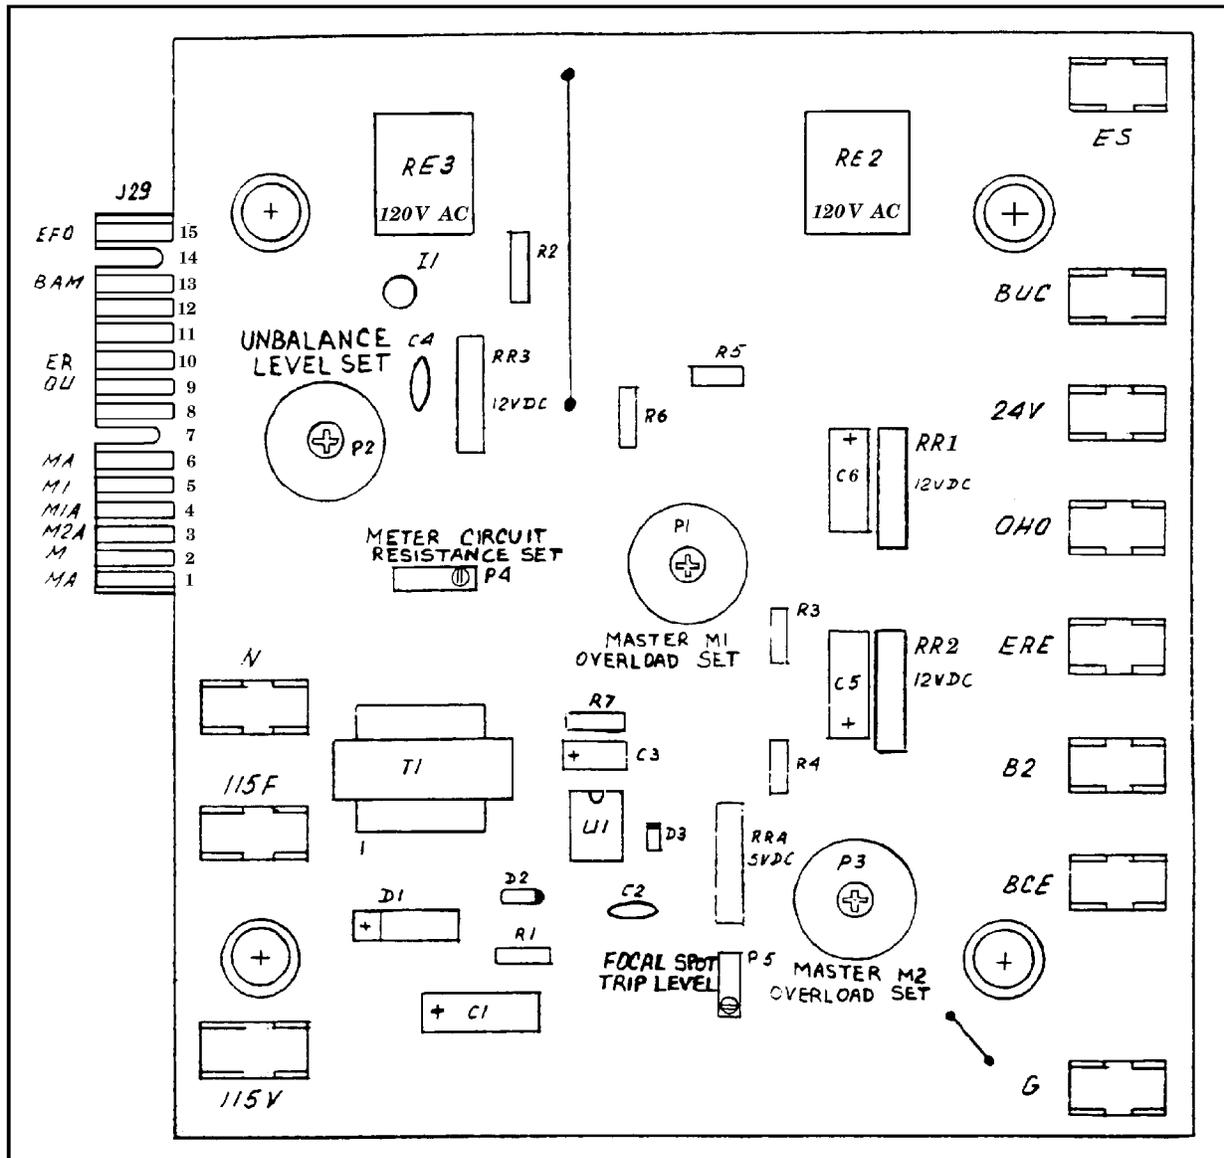

Figure 3-62
(1) Ensure the MAINS are off. Leave or install the current source on M1 and G on the main terminal strip. (See step 2g(8).)
(2) Connect a jumper wire on the Exposure Interlock PCB (6824.234.04), used from M1 (negative end of C6) and terminal G on the board. (See Figure 3-62.) This will bypass the focal spot overload.
(3) Turn the MAINS on and select 300L mA.
(4) Adjust the current source to 360 mA and adjust the pot P1, on the Exposure Interlock PCB (6284.234.04) until SAFETY RESET illuminates and will not illuminate for values less than 360 mA. (See Figure 3-62.)
(5) The M1 overall protection is set.
(6) Turn the MAINS off, remove the jumper wire, and reconnect it between M1 and M1A on the main terminal strip.
(7) Turn the MAINS on. Adjust pot P5 on the Exposure Interlock PCB (6284.234.04) until the SAFETY RESET illuminates for values above 360 mA and does not illuminate for values less than 360 mA. (See Figure 3-62.)
(8) Turn the MAINS off and remove the jumper wire.
(9) The focal spot overload is now set.
(10) Connect the negative lead of the current source to M2 and the positive lead to G on the main terminal strip located in the lower inside of the control.
(11) Turn the MAINS on and adjust the current source to 360 mA.
(12) Adjust pot P3 on the Exposure Interlock PCB (6284.234.04) until SAFETY RESET illuminates for values above 360 mA and does not illuminate for values less than 360 mA. (See Figure 3-62.)
(13) Turn the MAINS off and remove all jumper wires.
(14) The M2 overload is now set.